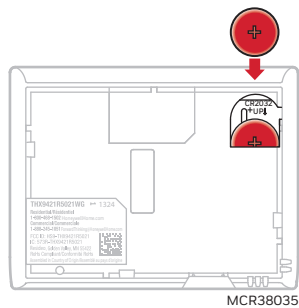

**Fig. 18. Mounting wallplate (THX9421).**
5. Position the wallplate over the holes, pulling wires through the wiring opening. See Fig. 18.